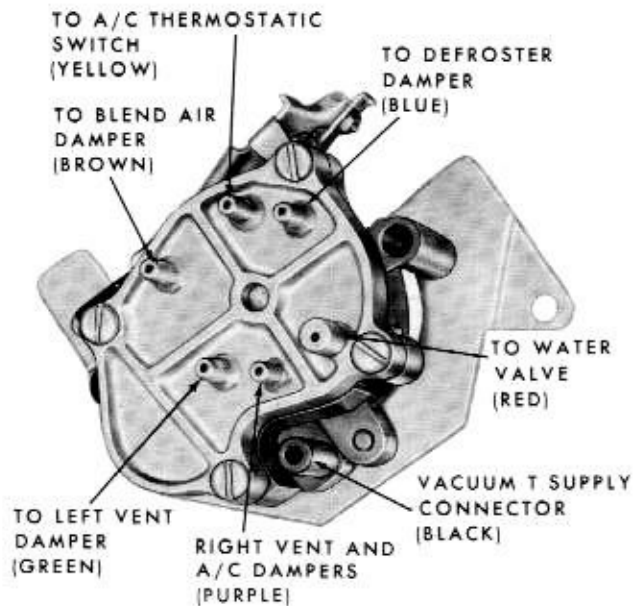

Fig. 4-8—Vacuum Servo Control—Rear View
7. Remove 2 screws securing the vacuum servo to the cluster. Pull the servo out far enough to expose the vacuum hoses. *The color on the vacuum ports of the servo matches the color on the vacuum hoses so that the hoses can be installed to the correct ports. (See figure 4-8.)*